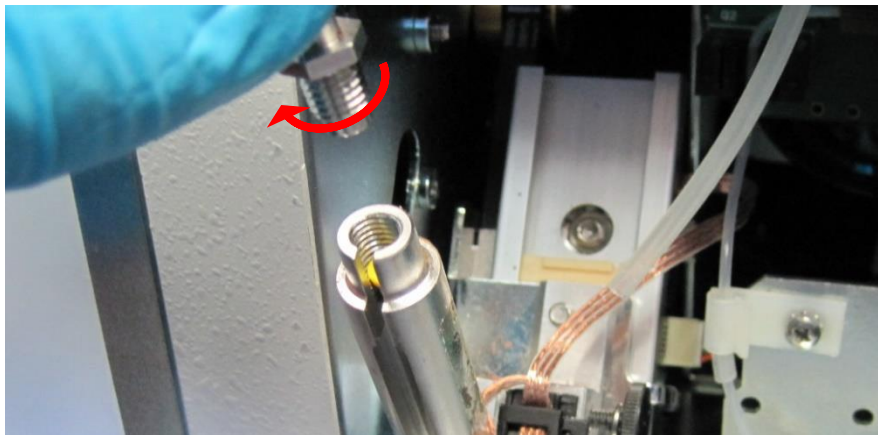

Figure 12
13. Screw the replacement Needle Tip into the Needle Piston Assembly. Tighten as much as possible by hand. Tighten another ½ turn with the Open-End Wrench. Figure 12